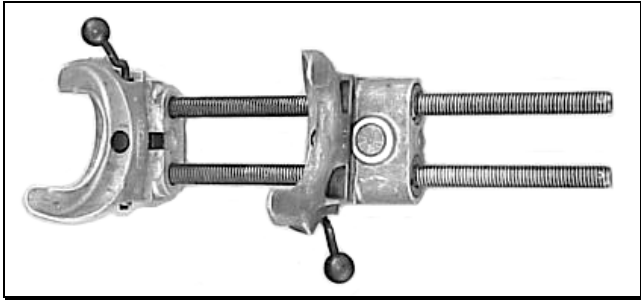

Figure 8
- 3)  Compress the new front coil spring to 16 inches in length. Use a quality spring compressor like the one shown in Figure 8.